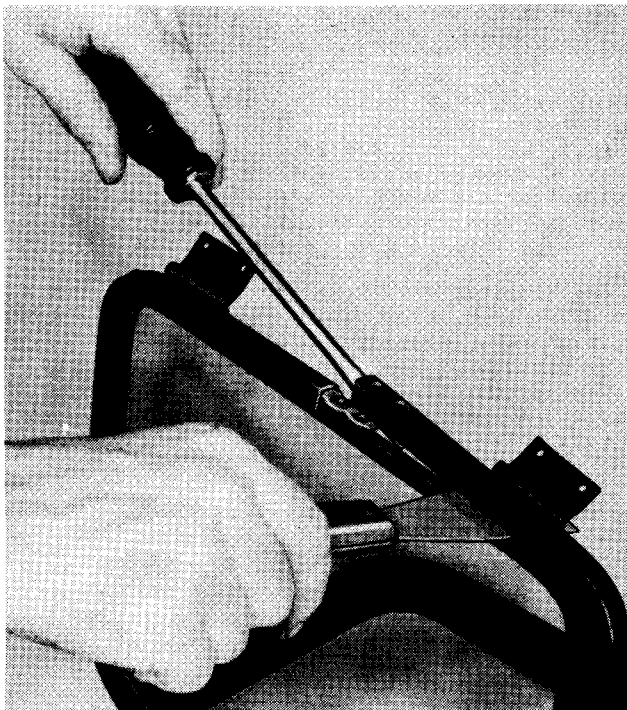
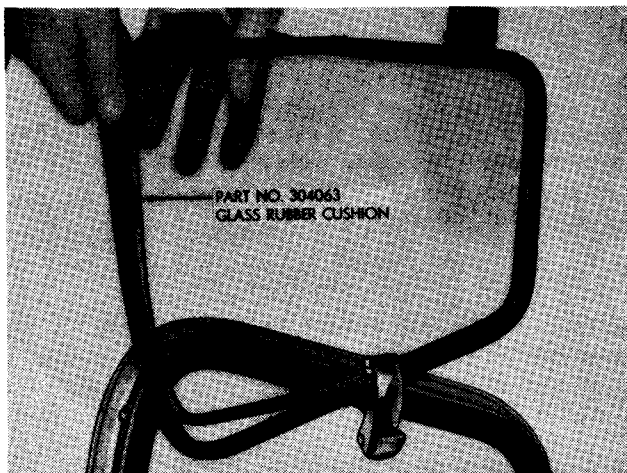
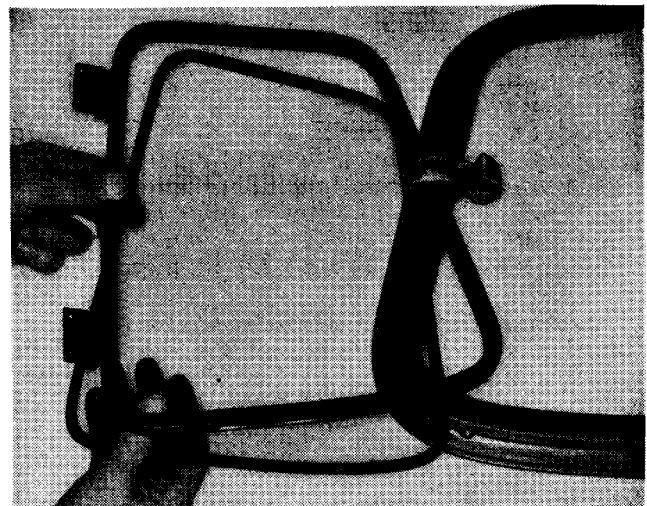

FIG. 2
FIG. 3
FIG. 4
4. Carefully raise bottom section of the frame with screw driver (Fig. 2). Insert a stiff-bladed putty knife between the frame and the glass. Pry up gently on the frame and slide the putty knife toward the bottom corner as you carefully remove the frame from the glass (Fig. 3).
4. Start the glass in the frame channel (Fig. 4) and seat the glass in the channel (Fig. 3).